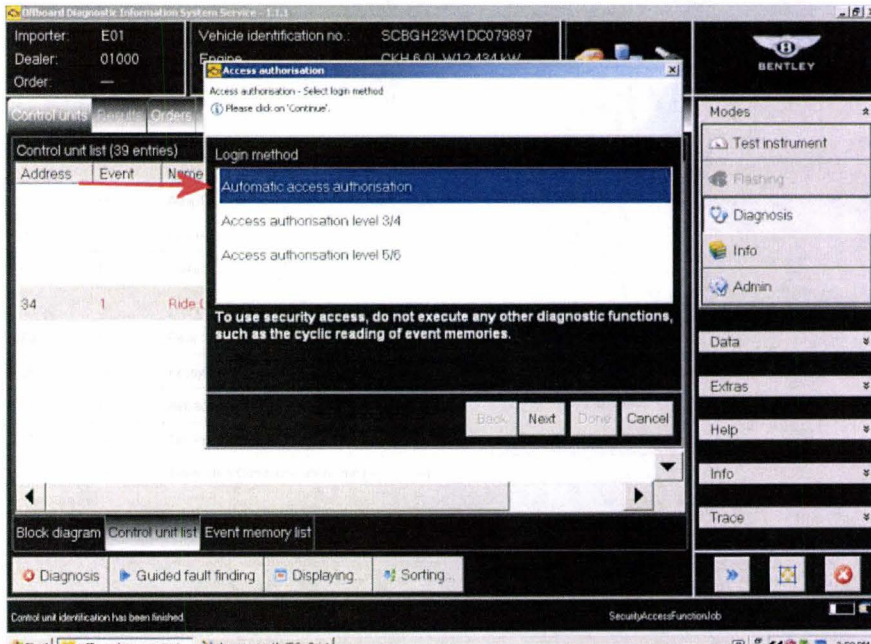

Figure 5
12. Select *Automatic access authorisation* then *Next* (see Figure 5)
4. Select *Automatic access authorisation* then *Next* (see Figure 5)